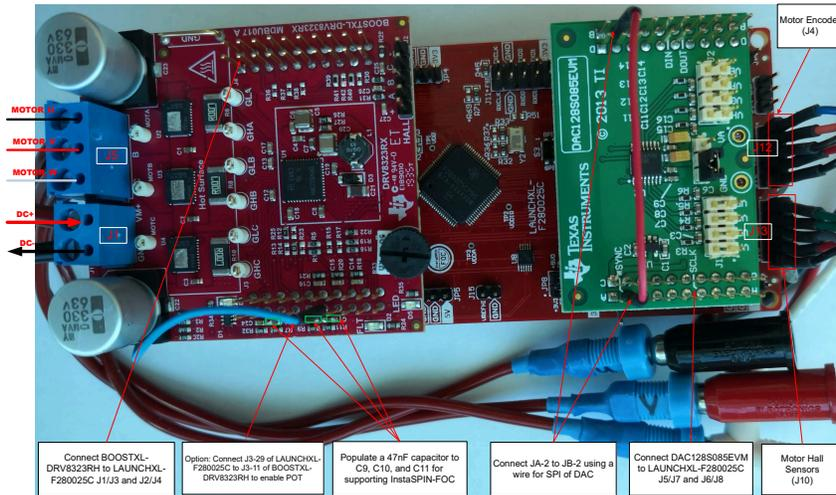

Figure 3-10. LAUNCHXL-F280025C/F280039C/F2800137 Connected to the BOOSTXL-DRV8323RH and the DAC128S085EVM
- Make sure that the following items are completed as described below, and then connect the BOOSTXL-DRV8323RH to J1/J3 and J4/J2 of the LAUNCHXL-F280025C, LAUNCHXL-F280039C, or LAUNCHXL-F2800137 as shown in Figure 3-10.
- Connect the motor, encoder, and Hall sensors to the BOOSTXL-DRV8323RH and LAUNCHXL-F280025C, LAUNCHXL-F280039C, or LAUNCHXL-F2800137 boards as described in Table 3-2 and shown in Figure 3-10.
- Connect a supply voltage ranging from 6 to 40 V from a battery or a DC voltage source to the voltage supply pins as shown in Figure 3-10. The maximum supply voltage rating for the BOOSTXL-DRV8323RH is 65V, so care must be taken to ensure that the voltage does not exceed this value during operation. This is particularly important while slowing down or braking the motor, which can cause the supply voltage to rise substantially. Power should only be applied when instructed to do so in Section 3.5, keep disconnected otherwise.